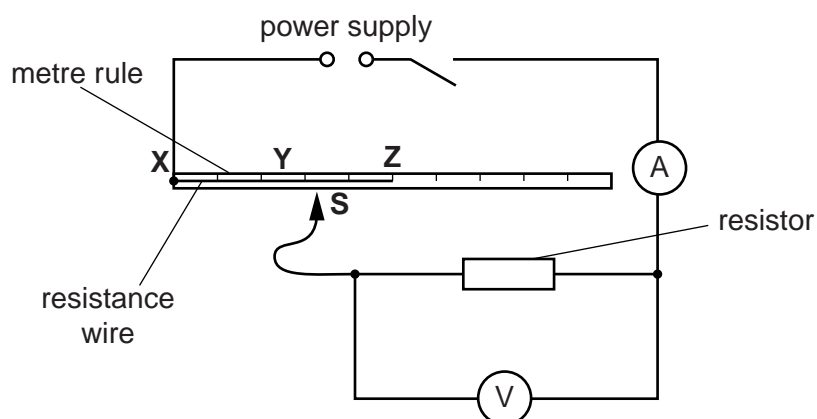

Fig. 3.1
- (ix) Sufficient connecting leads to set up the circuit shown in Fig. 3.1.
1. The circuit shown in Fig. 3.1 must be set up for the candidates.